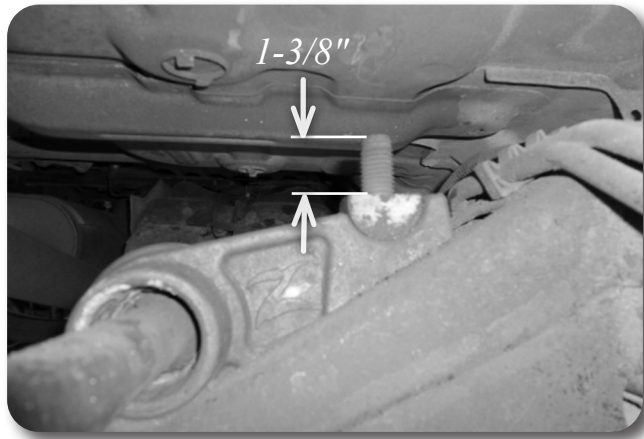

Figure 2
11. Set the overall length of the exposed thread to 1-3/8". This may need to be adjusted if heavy accessories are added to the front of the vehicle, or to level the vehicle side to side. Figure 2